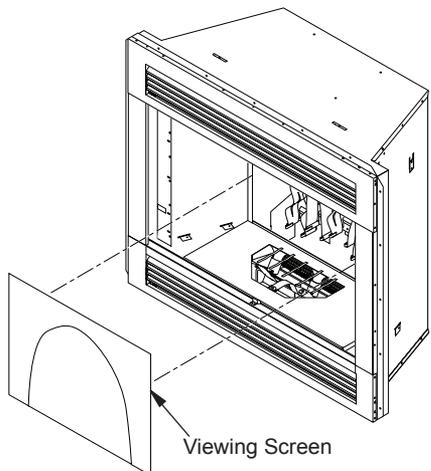

Figure 33 - Removing Viewing Screen
6. Remove viewing screen from cabinet face. Viewing screen is attached by magnets (see Figure 33).